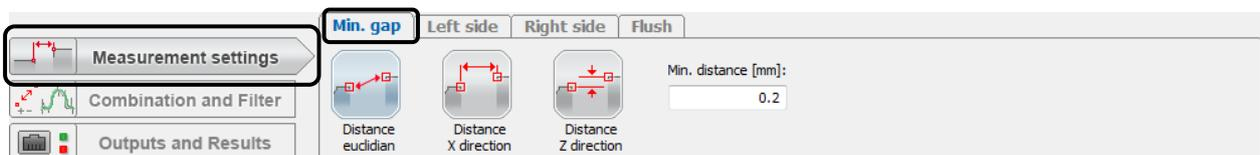

Fig. 3.34: "Measurement settings" input field, "Min. gap" tab sheet
- ▶ If not already done, press the "Measurement settings" button (see Fig. 3.34).
- ▶ If not already done, press the "Min. gap" tab sheet (see Fig. 3.34).